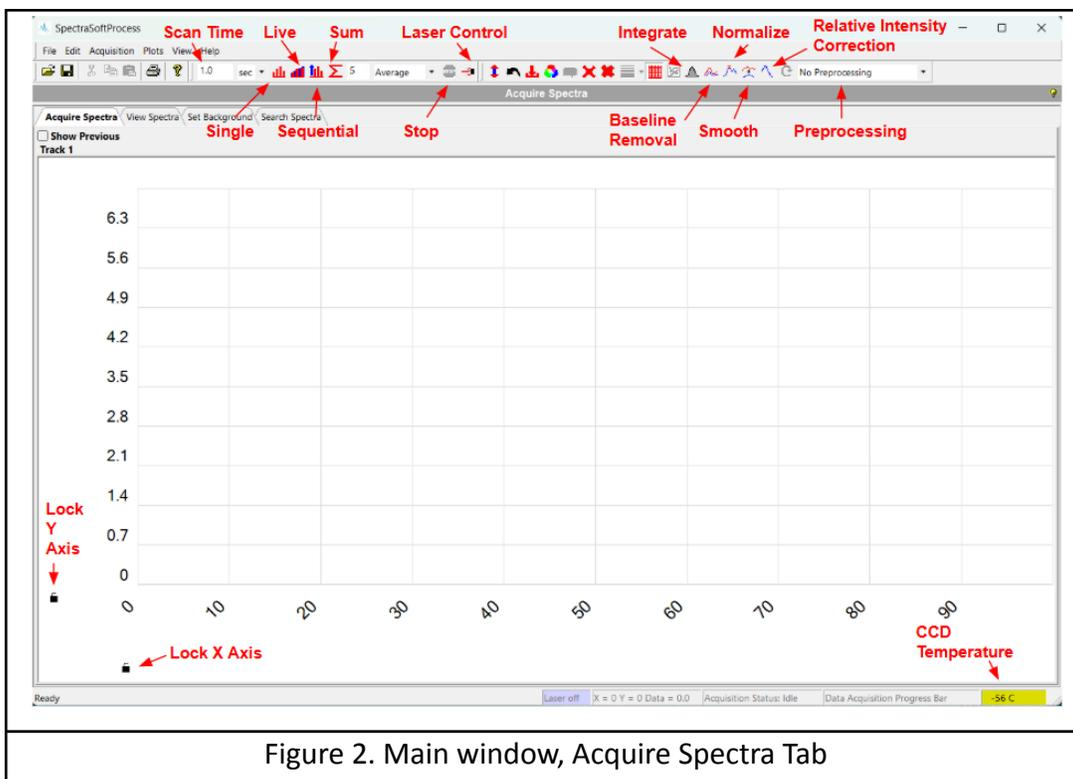
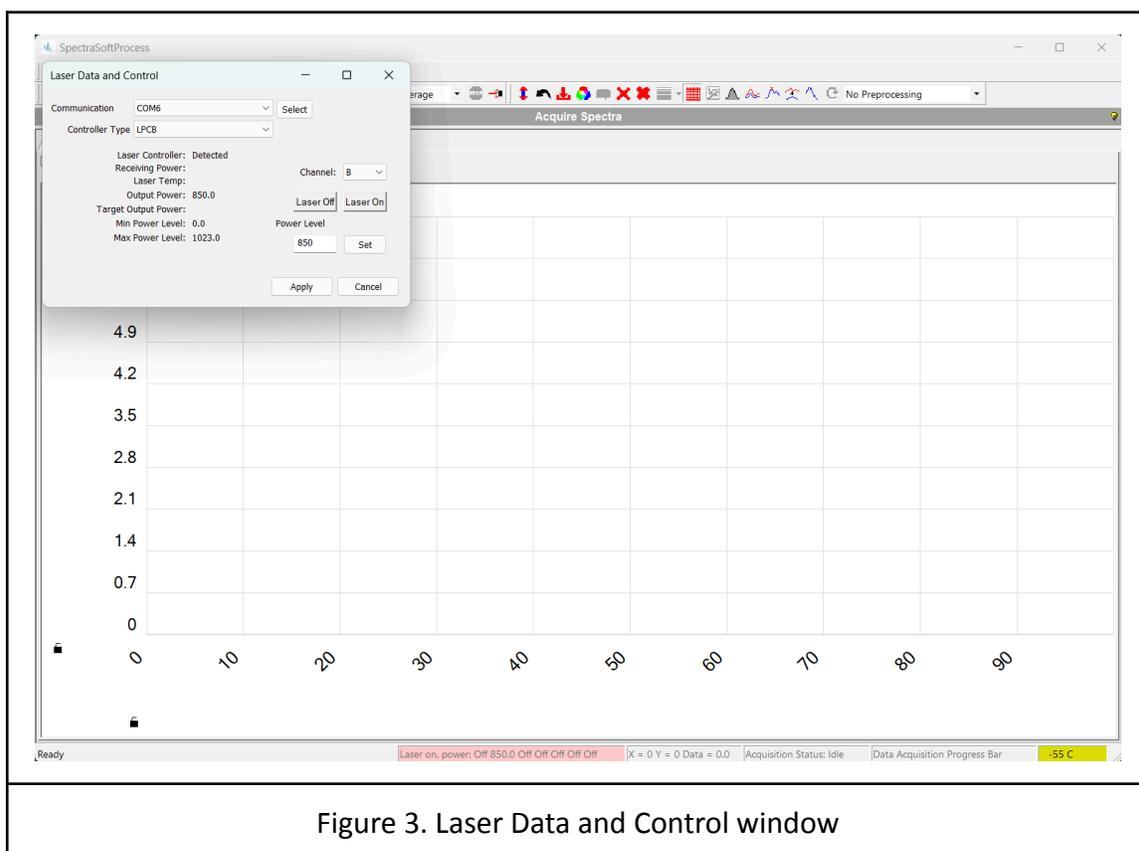

Figure 2. Main window, Acquire Spectra Tab
Figure 3. Laser Data and Control window
3. The main screen window will then appear as shown in Figure 2.
1. In the Main window, the button next to the Stop button (seen in Figure 2) is the Laser Data and Controller button. Selecting this button will bring the window to select and set the laser parameters as shown in Figure 3.
- b. The integration time can be changed and set in the scan time field (see Figure 2).
1. Different preprocessing methods (baseline removal, normalization, smoothing, background subtraction, normalized background subtraction) can be set from the drop down menu on the toolbar, seen in Figure 2.